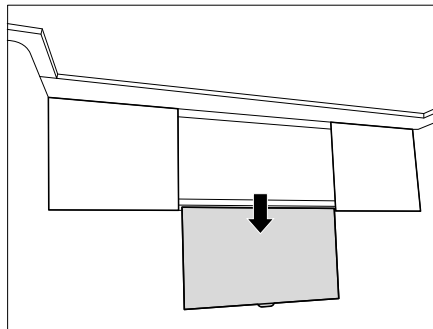

Fig. 143 Flat screen in bottom position
- Pull down the flat screen by the handle (Fig. 143).